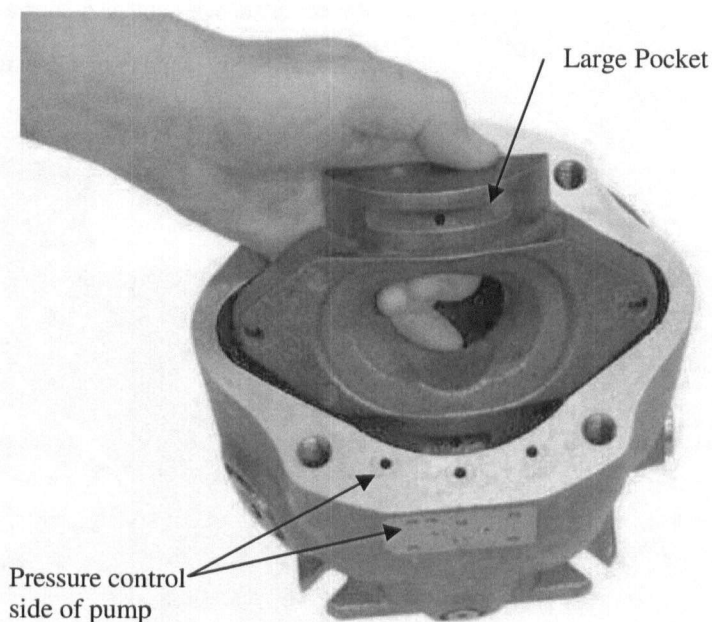

Figure 2
9. Remove cam from housing. See Figure 2
13. Place thin film of clean oil on cam bearing surfaces. Install cam in housing. For 045, the cam must be tilted to permit entry into the housing. (Figure 2)